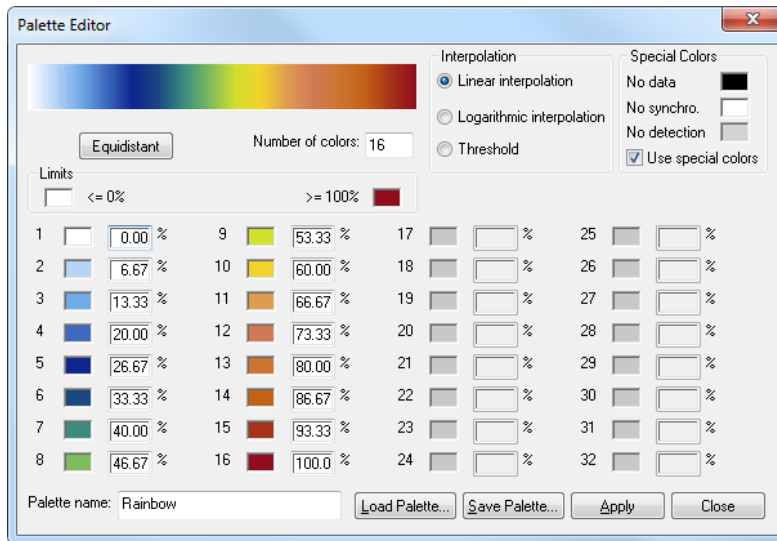

Figure 7-48 The Palette Editor dialog box
- To open the **Palette Editor** dialog box (see Figure 7-48 on page 384):